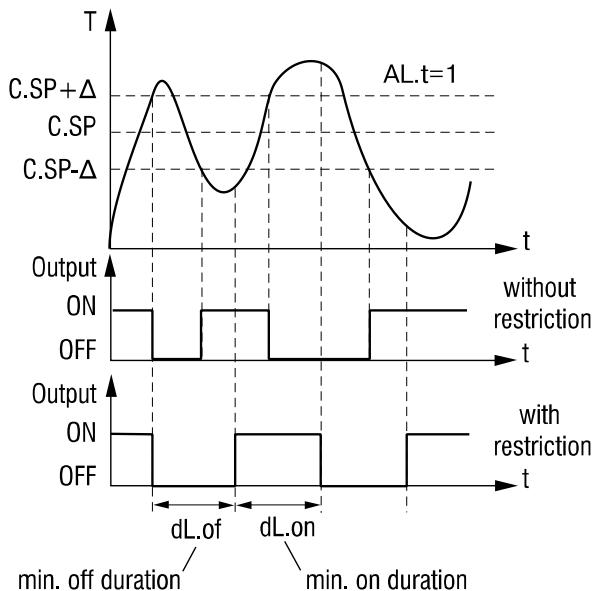

Fig. 6.11 Minimum on/off state duration
3. Also the minimum duration of on- or off state of output irrespective of the input state can be set in the parameters **dL.on** and **dL.oF** (PL-2 group) accordingly. Output time diagram for this option is shown in Fig. 6.11.